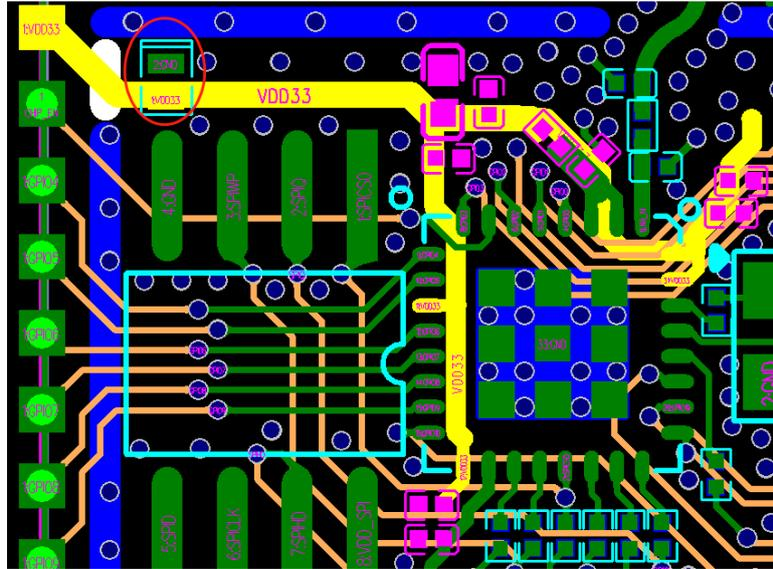

Figure 15: ESP32-C3 Family Power Traces in a Four-layer PCB Design
- As shown in Figure 15, an ESD protection diode is placed close to the power port (marked in red circle). A 10 μF capacitor is required before the power trace is connected to the chip, to be used in conjunction with a 0.1 μF capacitor. Then the power traces are divided into two ways from here and form a star-shape topology, thus reducing the coupling between different power pins. Note that all decoupling capacitors should be placed close to the power pin, and ground vias should be added close to the ground pin of decoupling capacitors to ensure a short return path.
- The 3.3 V power traces, highlighted in yellow, are routed as shown in Figure 15. The width of the main power traces should be at least 20 mil. The width of the power traces for pin 2 and pin 3 should be at least 15 mil. The width of other power traces is preferably 10 mil.